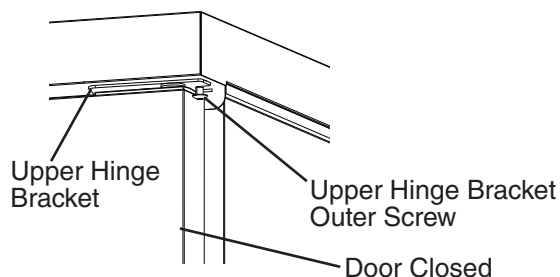
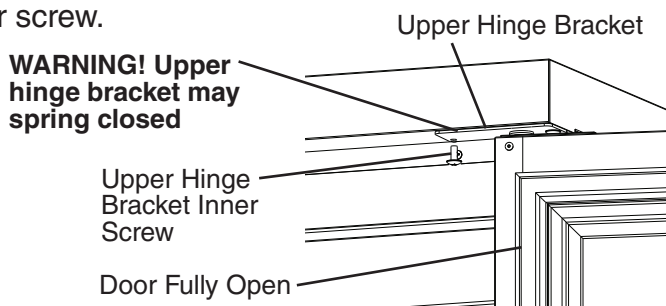

Fig. 12
Fig. 13
- 2) With the door closed, loosen, but do not remove, the upper hinge bracket outer screw. See Fig. 12. Next, open the door to the fully open position and remove the upper hinge bracket inner screw. See Fig. 13.